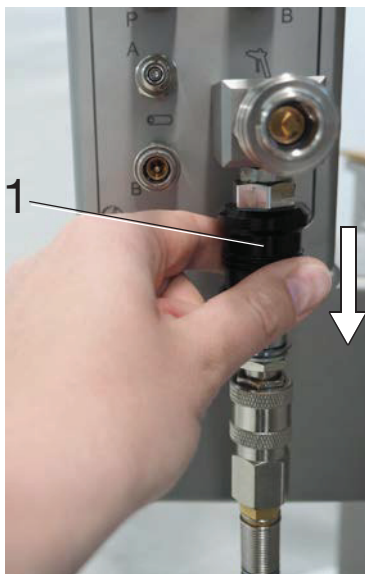

Fig. 1-21 Arrow: pointing against the direction of flow
- Push the air release valve (1, Fig. 1-21) against the direction of flow (see arrow, Fig. 1-21), thereby opening it.